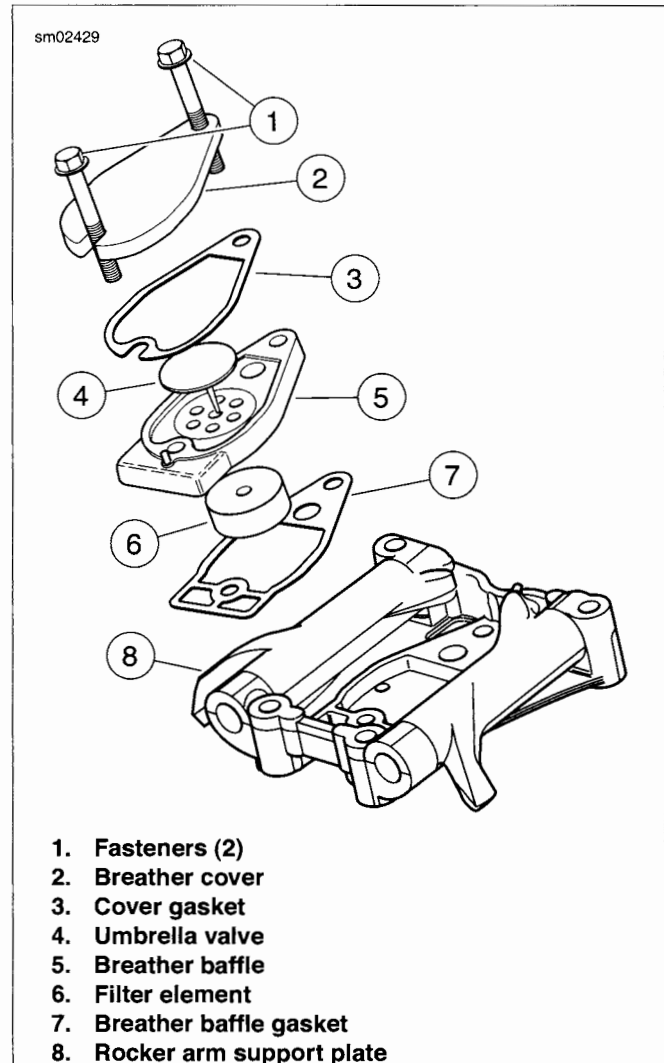

Figure 3-85. Breather Assembly
1. See Figure 3-85. Remove two fasteners (1) from the breather assembly cover (2) and remove breather assembly from rocker arm support plate (8).
2. Remove the breather cover and cover gasket (3). Discard gasket. Remove breather baffle (5) and breather baffle gasket (7). Discard gasket. Pull filter element (6) from bore on underside of breather baffle. Pull umbrella valve (4) from hole at top of breather baffle. Discard both filter element and umbrella valve.
2. See Figure 3-85. Set a straightedge diagonally across the length of the breather cover (2) intersecting the opposite corners of the gasket surface. Slide a feeler gauge beneath the straightedge to check the breather cover for warpage. Repeat the step checking the opposite diagonal. Discard the breather cover if any low spot exceeds 0.005 in. (0.13 mm).
3. Using method outlined in previous step, inspect the breather baffle (5) gasket surface for flatness. Discard the breather baffle if any low spot exceeds 0.005 in. (0.13 mm).
1. See Figure 3-85. Insert stem of **new** umbrella valve (4) through center hole at top of breather baffle (5). Carefully pull rubber bead on stem through hole in baffle. Use denatured alcohol or glass cleaner to lubricate stem, if necessary. Verify that rubber bead is pulled completely through hole and resides on bottom side of baffle.
2. Press **new** filter element (6) into bore at bottom of baffle. Hole in filter element accommodates umbrella valve stem.
3. Place breather baffle gasket (7) on a clean flat surface.
- a. Aligning holes, place breather baffle (5), cover gasket (3) and breather cover (2) on top of breather baffle gasket.
- b. Slide two fasteners (1) through stackup to keep assembly together until time of installation.